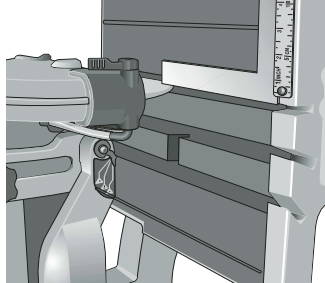

FIG. 9
- "Off Cutting Wheel" position to eliminate water overspray between cuts and for blade change (Fig. 9).